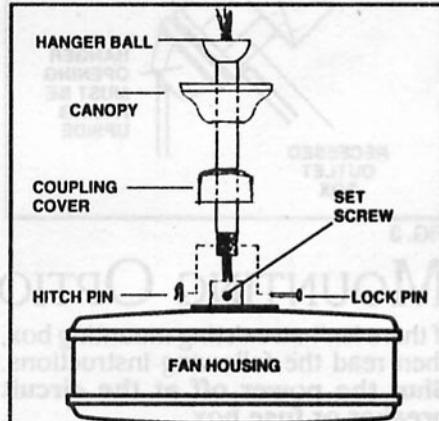

FIG. 8
**Step 4.** Carefully feed fan wires up through the downrod. Insert the rod into the coupling and tighten onto fan until the holes are aligned. Next, replace lock pin and hitch pin. Tighten the set screws. (Fig. 8)
**Step 5.** Slip coupling cover, and canopy onto downrod. Let canopy rest on top of the coupling cover. Carefully reinstall hanger ball onto rod being sure that cross pin is in correct position, set screw on hanger ball is tight and wires are not twisted. (Fig. 8)